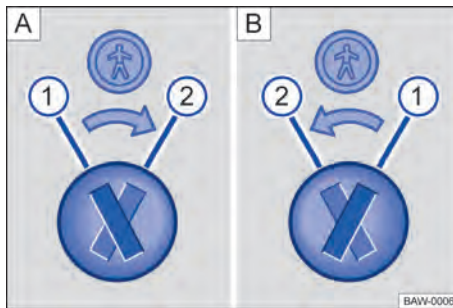

Fig. 47 Childproof lock: **A** rear left door, **B** rear right door.
Key for → Fig. 47:
- Insert the key blade into the childproof lock groove to enable or disable the lock → Fig. 47.